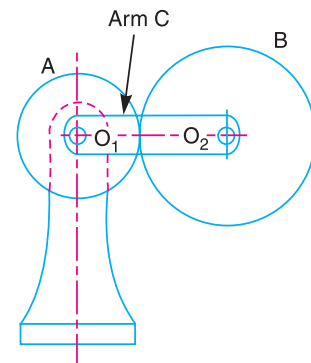

Fig. 13.6. Epicyclic gear train.
We have already discussed that in an epicyclic gear train, the axes of the shafts, over which the gears are mounted, may move relative to a fixed axis. A simple epicyclic gear train is shown in Fig. 13.6, where a gear  $A$  and the arm  $C$  have a common axis at  $O_1$  about which they can rotate. The gear  $B$  meshes with gear  $A$  and has its axis on the arm at  $O_2$ , about which the gear  $B$  can rotate. If the
1. **Tabular method.** Consider an epicyclic gear train as shown in Fig. 13.6.
Let the arm C be fixed in an epicyclic gear train as shown in Fig. 13.6. Therefore speed of the gear A relative to the arm C